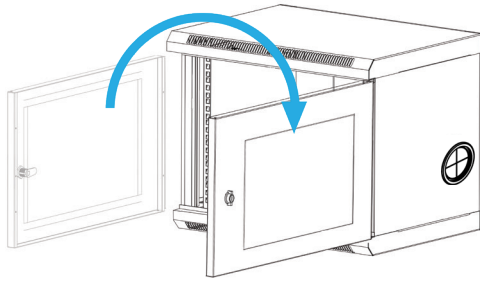

Figure 3
3. **Re-orientate** the **Door** so that the **Pins** are located on the **Opposite Side**, with the **Front** of the **Door Facing Outwards**. (Figure 3)